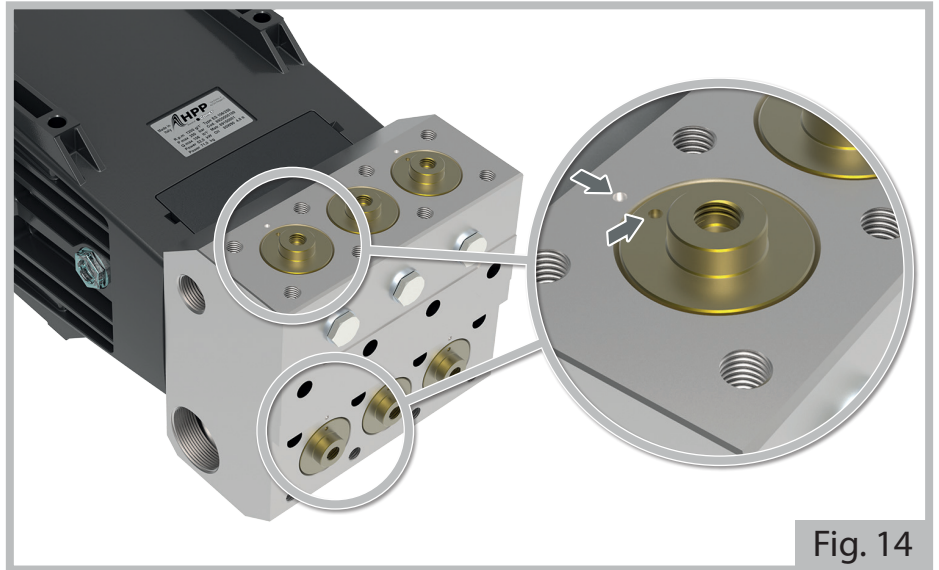

Fig. 14
For a correct assembly, the reference marks on the spacers (8) have to mate those on the head, as shown in Figure 14.